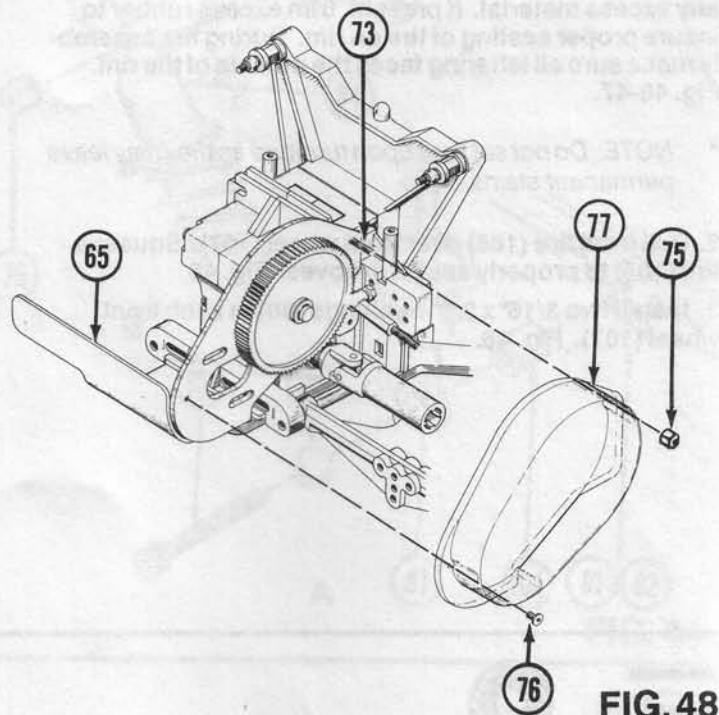

FIG. 48
1. Attach motor to motorplate (65) using 3mm x 8mm socket head screws (114) and two #4 washers (74).
2. Attach pinion gear (119) to motor shaft making sure set screw (120) is against flat in motor shaft. Fig. 48.
3. Locate trimmed gear cover (77) onto motor plate (65) and secure with 4-40 nylon nut (75) on top forward 4-40 x 1 3/4" socket head screw (73). Thread a 4-40 x 1/8" button head screw (76) in rear lower hole in motorplate. Fig 48.